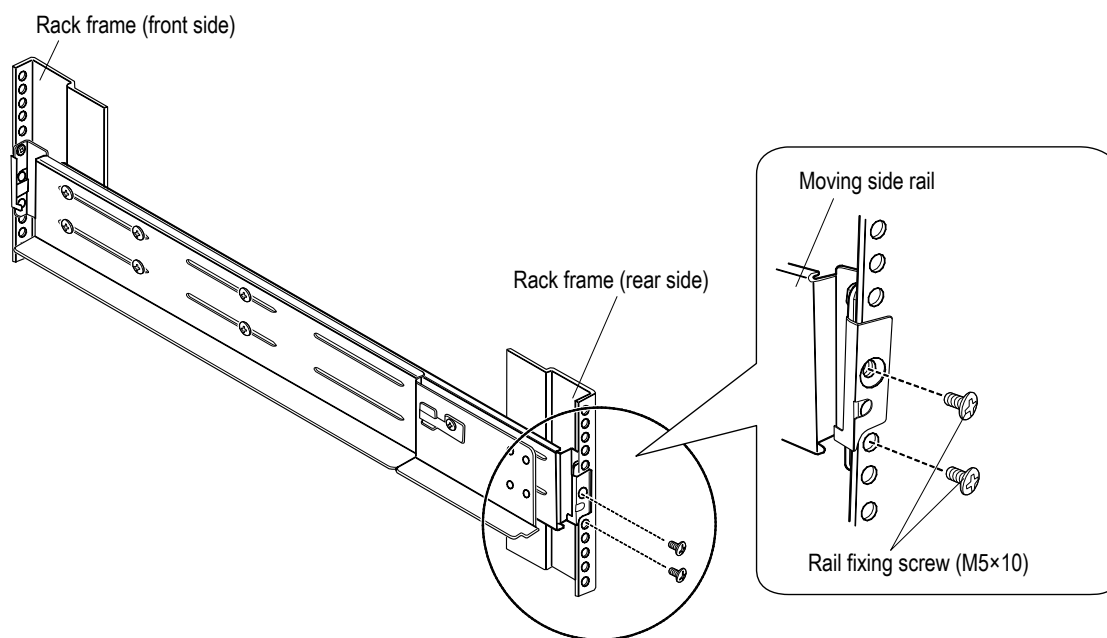

Figure 2.2.24 Installing Rack Rails (Circular Hole) for Drive Box (2U)-3
- (v) Fix the moving side rail (R) with two screws (M5×10). (See Figure 2.2.24.)
- (vi) Fix the fixed side rail (L) and the moving side rail (L) in the rack frame in the same way following the steps (i) to (v).